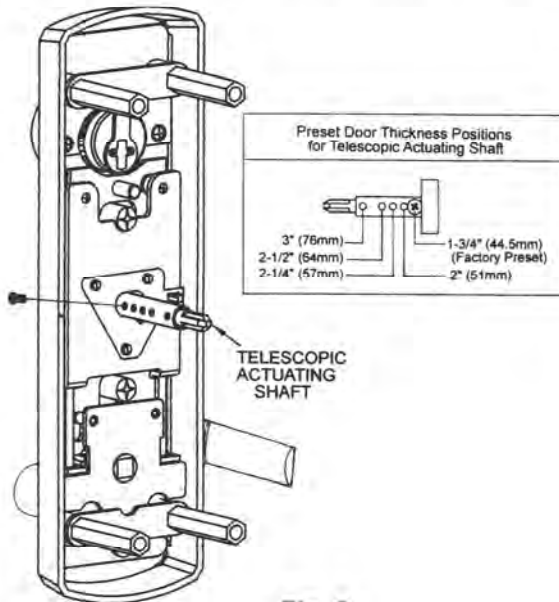
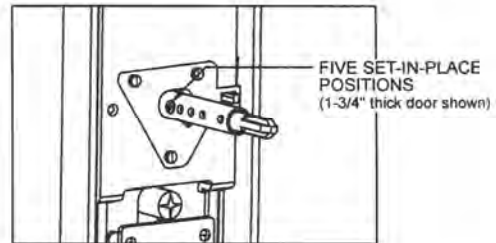

Fig. 8
Fig. 9
1. The trim spindle is a telescopic actuating shaft which is preset at factory for a 1-3/4" thick door use. (See Fig. 8.) There are 5 set-in-place positions for the following door /shim thickness: 1-3/4", 2", 2-1/4", 2-1/2", and 3". (See Fig. 9.) For thicker door applications, pull out the center crosshair shaft then set it at appropriate position by a setting screw. (See Fig. 10.)